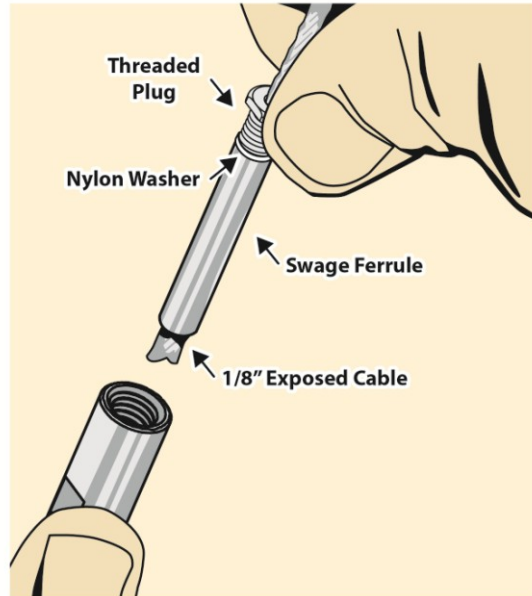

Fig 9
– Grasp cable end and push the following sequence of components onto the cable (Fig. 9).
- Refer to Fig 9.
- Screw on the FineLine® Threaded Plug (Fig. 9).